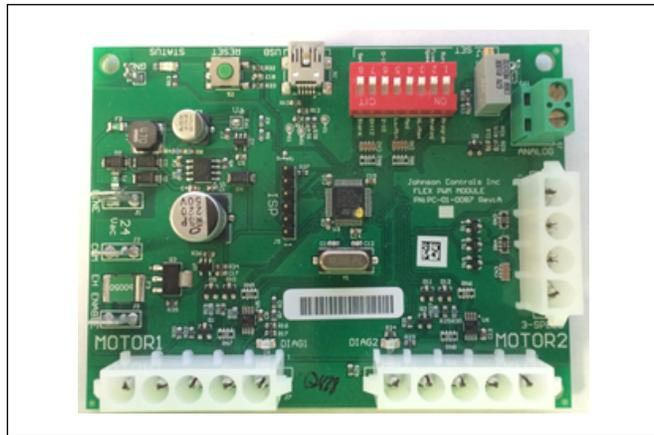

Figure 20 – G3 PWM Board
- a. Locate the G3 PWM board within the control enclosure (See Figure 20).